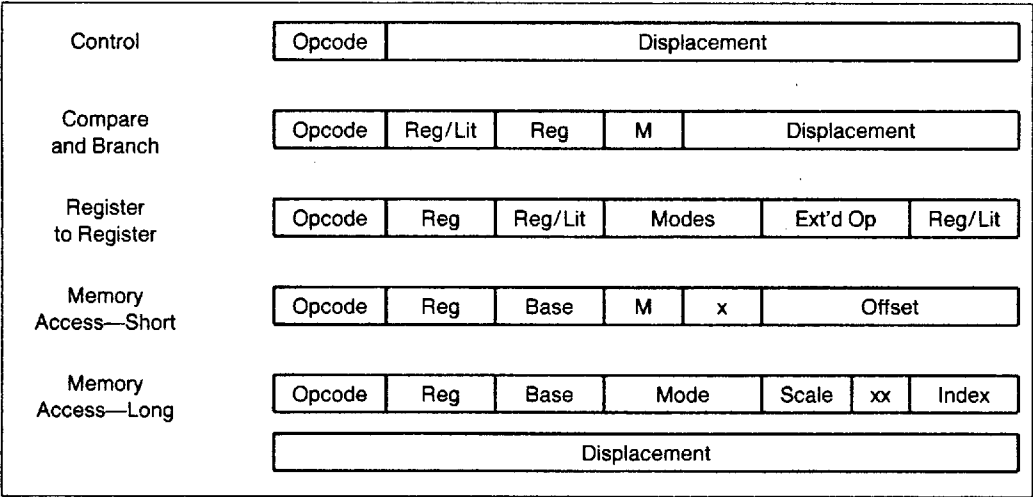

Figure 4. Instruction Formats
- 4. Simple Instruction Formats.** All instructions in the 80960XA are 32-bits long and must be aligned on word boundaries. This alignment makes it possible to eliminate the instruction-alignment stage in the pipeline. To simplify the instruction decoder further, there are only five instruction formats and each instruction uses only one format. (See Figure 4.)